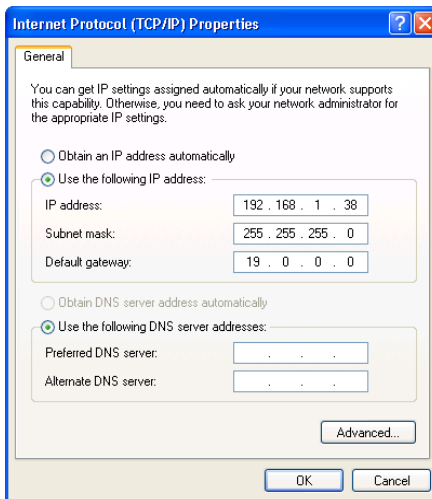

Figure 8: Internet Protocol (TCP/IP) Properties Window
The table below is based on the port numbering shown in Figure 5. Figure 8 lists EDID configuration requests and the results.
6. Select **Use the following IP Address** and enter the details as shown in Figure 8. You can use any IP address in the range 192.168.1.1 to 192.168.1.255 (excluding 192.168.1.39) that is provided by your IT department.